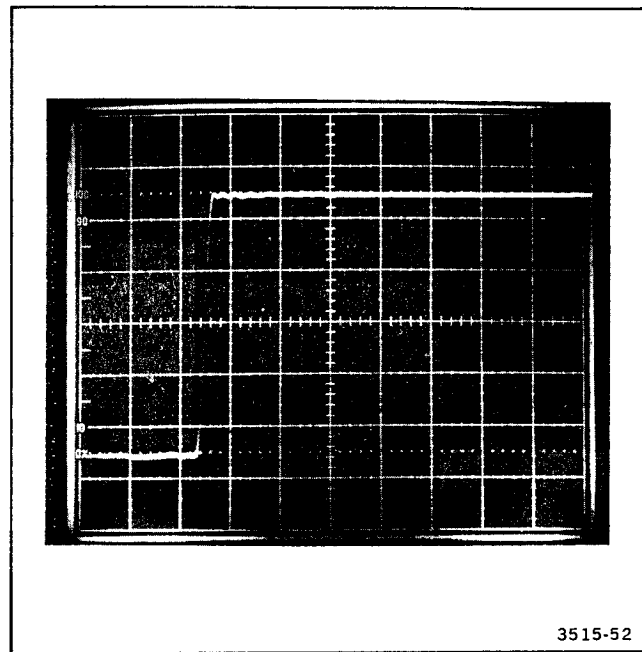

Figure 4-2. Typical display when high-frequency compensation is correctly adjusted.
c. CHECK—Flat-top display aberrations are within 4% ( $\pm 0.2$  division). See Figure 4-2 for a typical display.